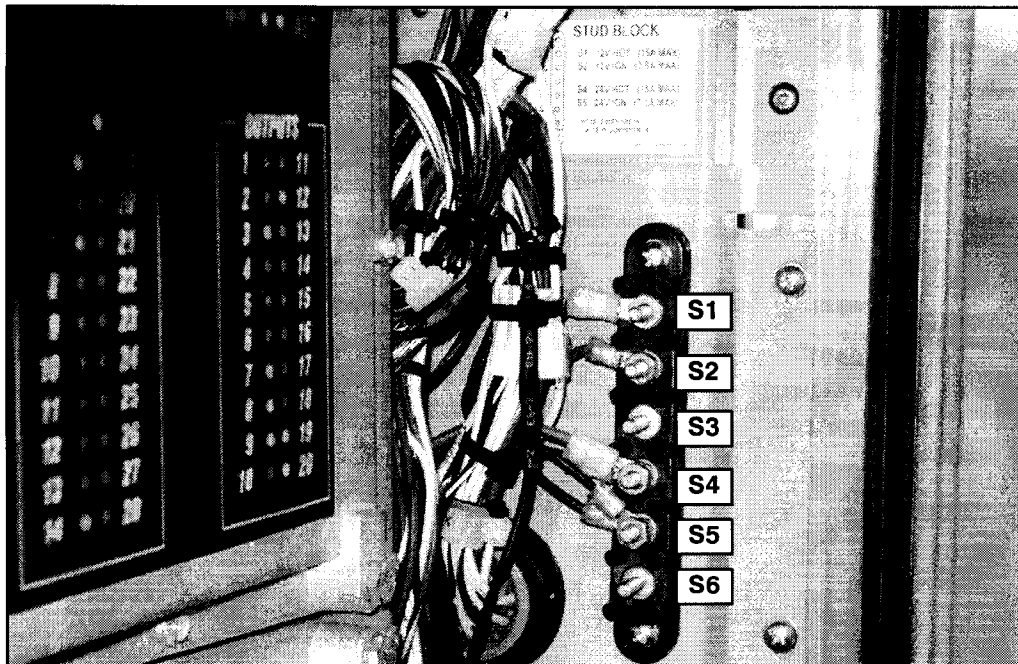

Figure 1.
4. Locate the stud block on the compartment wall ( refer to Figure 1 ).